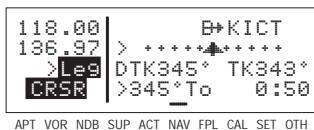

Figure 4-97
2. Turn the right inner knob counter clockwise until the cursor is over the navigation mode. In this case, the current mode is **Leg** (figure 4-97).